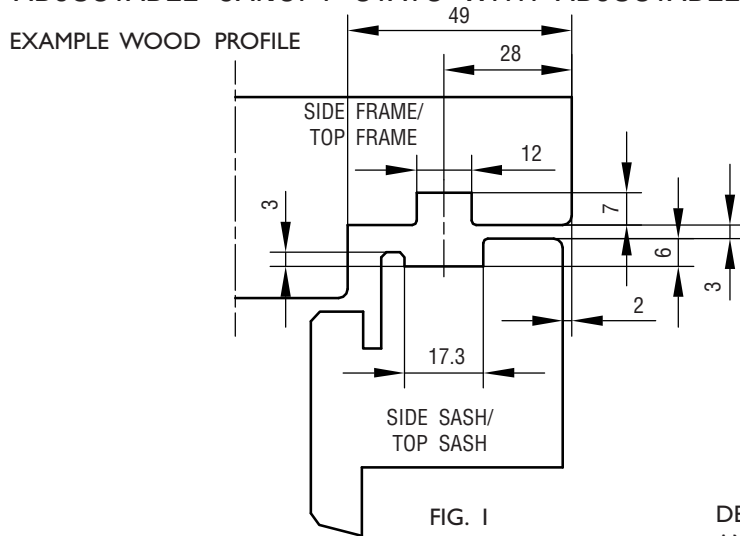

FIG. 1
1. 21167: SIDE FRAME AND SIDE SASH HAS TO BE FITTED WITH FULL LENGTH GROOVES. SEE FIG. 1 + 2.
88 & 90: SIDE/TOP FRAME AND SIDE/TOP SASH HAS TO BE WITH FULL LENGTH GROOVES, SEE FIG. 1 + 2.
21167: WHEN THE TOP SASH IS MADE WITH GROOVE ACCORDING TO FIG. 1 USE THE 2 DISTANCE PIECES. ONE IN BOTH ENDS OF THE UPPER SASH GROOVE.